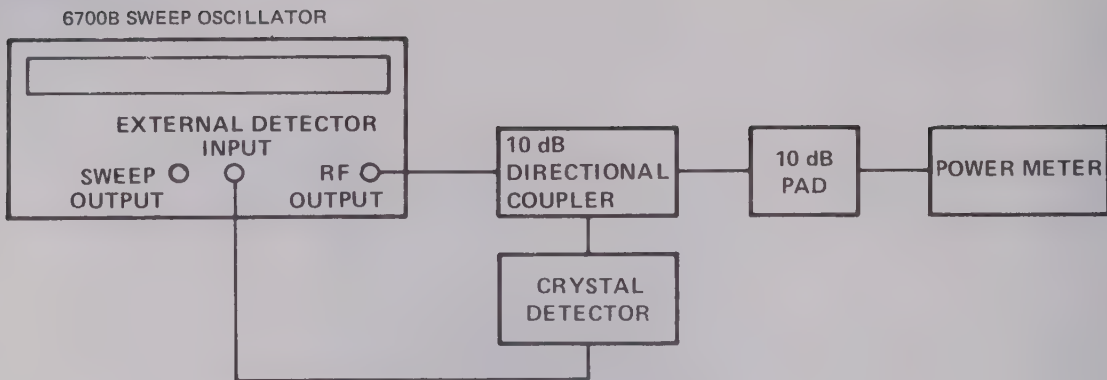

Fig. 7 External levelling measurement test set-up (2)
- (3) Adjust the RF LEVEL control over its range and then rotate it away from the fully clockwise position just enough to obtain levelling across the entire band, making sure that the UNLEVELLED indicator remains extinguished.
- (4) Replace the oscilloscope and crystal detector with an r.f. power meter as shown in Fig. 7.
- (5) Set the SWEEP TIME control to MAN.
- (6) Rotate the VARIABLE SWEEP TIME control through its entire range and note the maximum and minimum power meter indications (dB).
- (7) The total power variation observed in step (6) should be less than the total variation specified for the r.f. unit. The effect of the external crystal detector in addition to the 10 dB pad and external directional coupler variation must be taken into account.
(1) Connect equipment as shown in Fig. 7 with the following exceptions: substitute a power meter (HP model 432A recommended) for the crystal detector and connect the d.c. output (recorder output) to the EXT DET INPUT on the r.f. unit.
(2) Set the controls as follows: